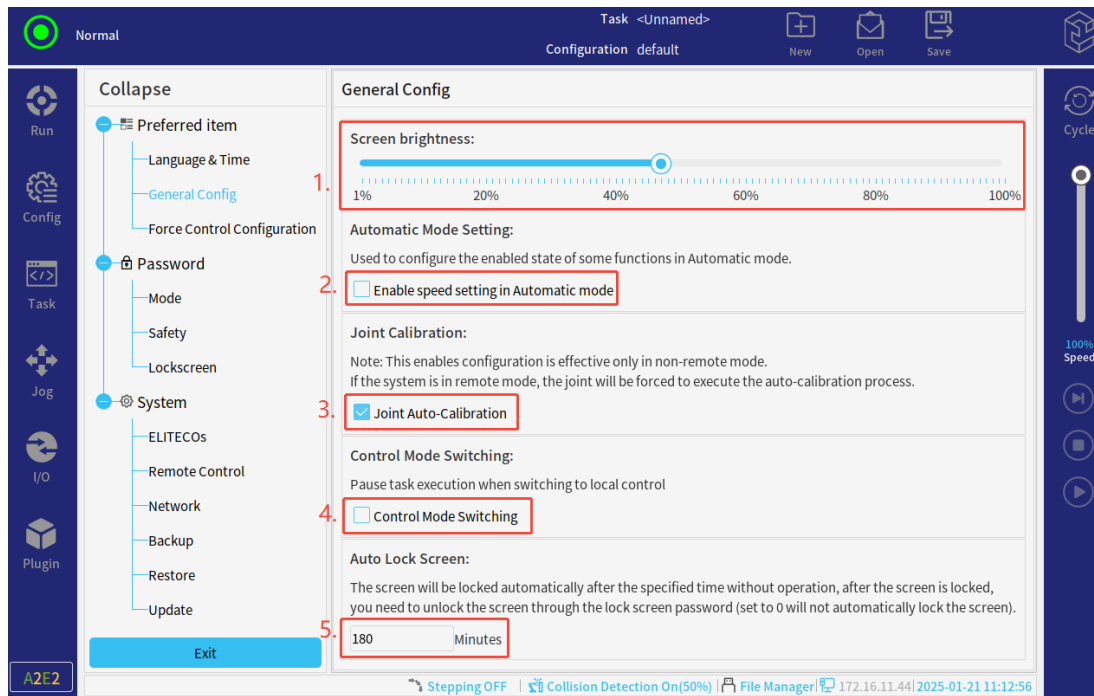

Figure 3-13 : General Configuration
Users can perform the following five settings in this interface(see **Figure 3-13**).
1. **Adjust Screen Brightness:**Slide the scale axis in **Figure 3-13** to adjust the screen brightness.
2. **Automatic Mode Configuration:**tap the button in **Figure 3-13** so that the running speed of the program can be adjusted when the system is in automatic mode.
3. **Joint Calibration:**tap the button in **Figure 3-13** to perform joint calibration automatically.
4. **Control Mode Switching:**tap the button in **Figure 3-13** so that the system will pause running automatically when switching between modes.